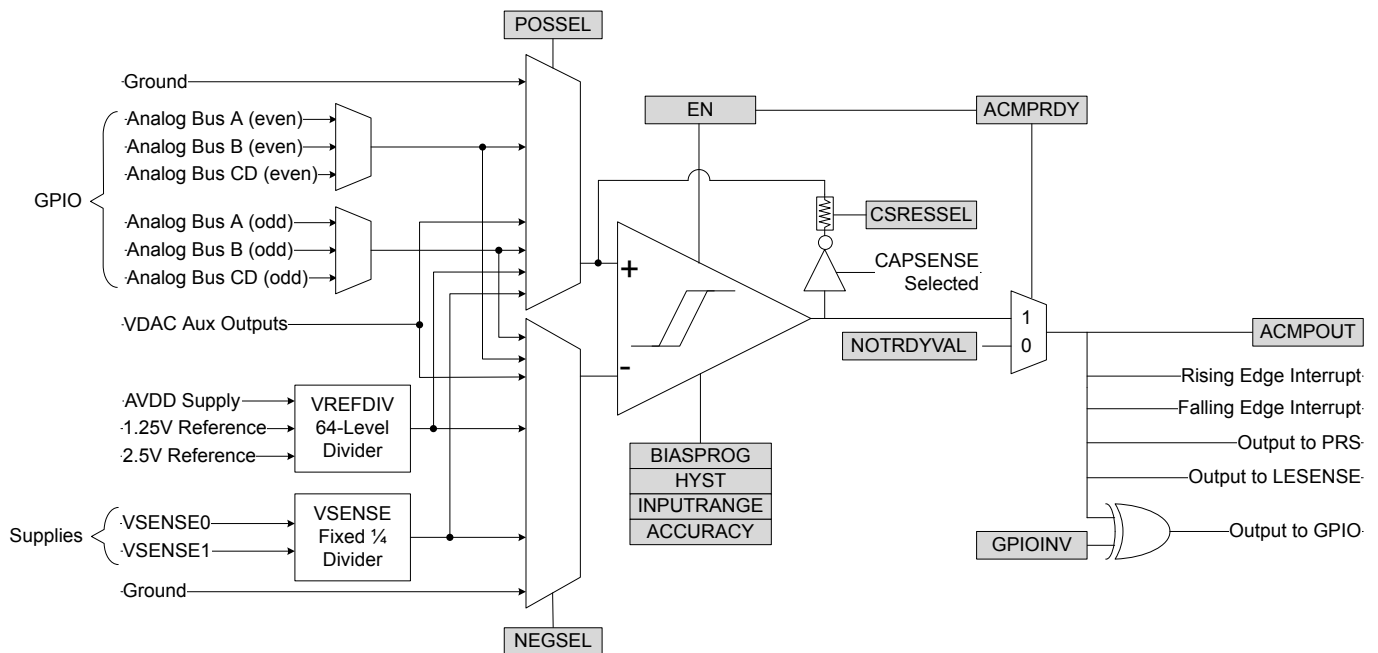

Figure 31.1. ACMP Overview
An overview of the ACMP is shown in Figure 31.1 ACMP Overview on page 1213.
The ACMP can be used to monitor supply voltages. This is done by selecting VSENSE01DIV4(LP) or VSENSE11DIV4(LP) for either POSSEL or NEGSEL. Note that the input to the comparator core will be divided by 4, as illustrated in Figure 31.1 ACMP Overview on page 1213. To reduce energy consumption, a sample/hold circuit can be used to periodically sample the power supplies. To enable this, select VSENSE01DIV4LP or VSENSE11DIV4LP in POSSEL / NEGSEL. Because the sample/hold feature uses the comparator in a non-continuous fashion, enabling this will increase response times and reduce the accuracy of the comparator. The connections between VSENSE0 and VSENSE1 to power supplies are summarized in the table below.